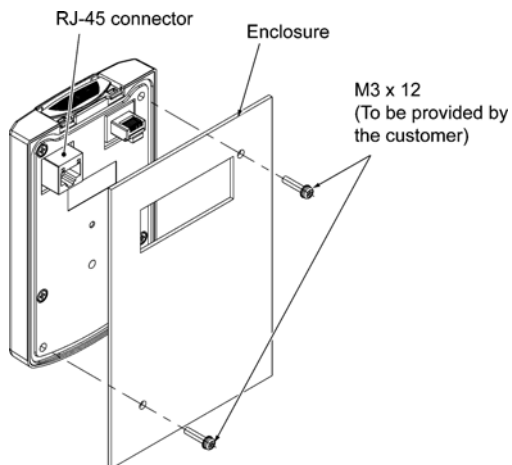

Figure 2.8 Mounting Multi-function Keypad
- ② Mount the multi-function keypad onto the enclosure with 2 screws as shown in Figure 2.8. (Recommended tightening torque: 0.7 N•m)